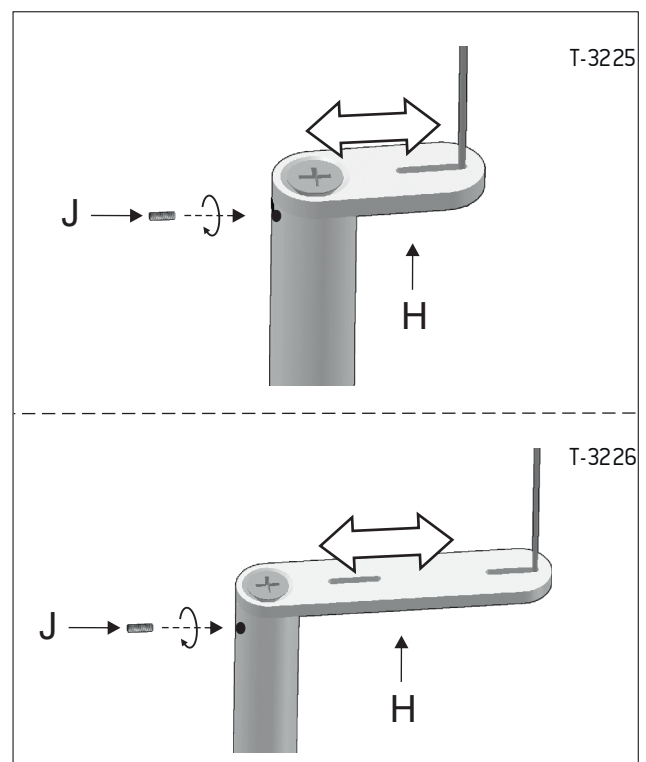

Figure 8
The piece (H) is used to find balance and straighten the lamp. Loosen the stud (J) to allow the piece (H) move. It allows a 360° turn to find the center of gravity. Turn it around until the pendant is straight. The metallic cable can also be moved along the slot on piece (H) for final adjustment. When finished, tighten the stud (J) again. Figure 8